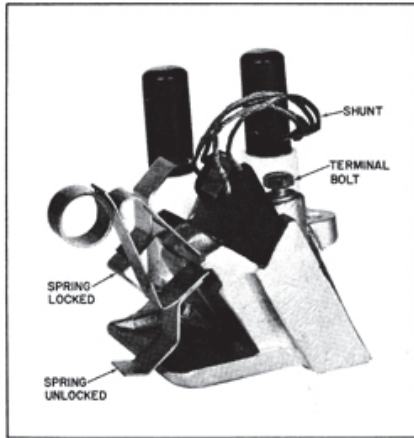

FIG. 5-3. INSTALLATION OF NEW BRUSH. E-16479
- b. Pull the spring out and pivot the spring down to the unlocked position shown in Fig. 5-3.
- f. Install the new brush and pivot the brush to an upright position. Push the spring straight down and in so that the spring lock engages in the brush holder slot (Fig. 5-3).
1. Inspect the axle ground brushes. Remove the ground brush, measure and record the length. The Axle Ground Brush is 1- $\frac{1}{4}$ in. X 1- $\frac{1}{4}$ in. X 2- $\frac{1}{4}$ in. GE Metite (R) Grade L. Minimum length is 1- $\frac{3}{8}$ in. Re-install the brush if it meets specifications or replace if the brush damaged or worn below the minimum length.